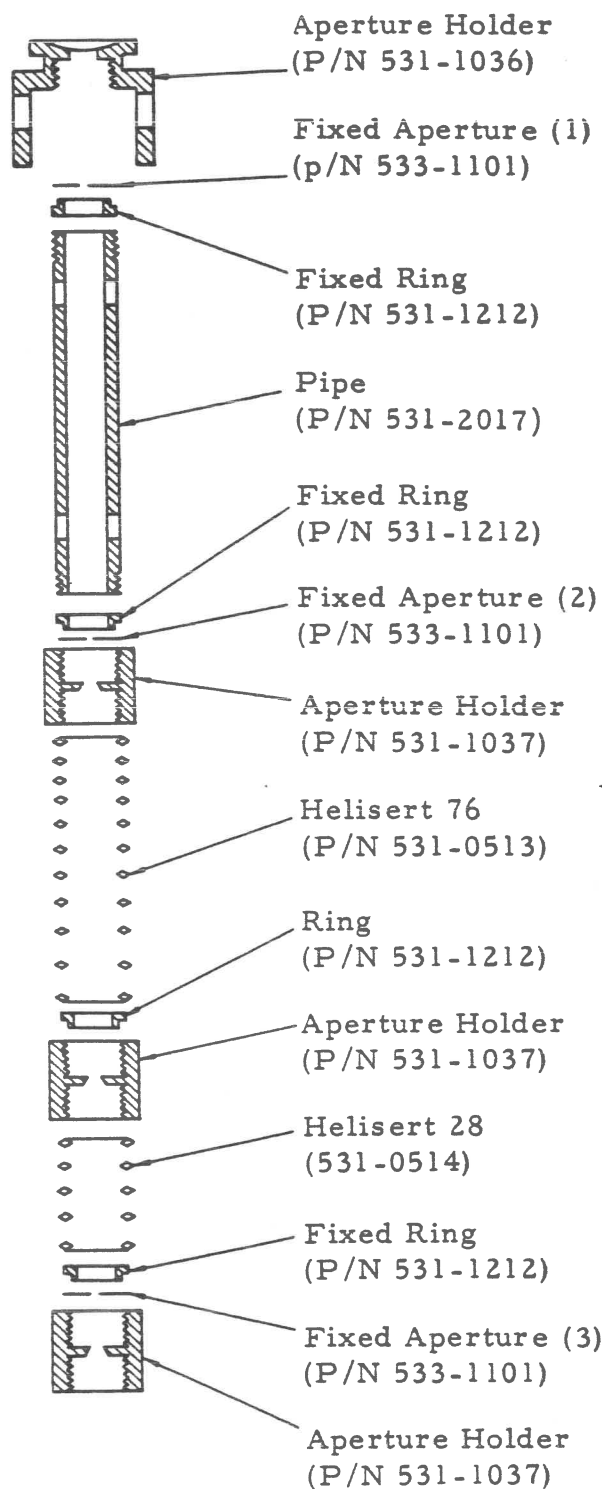

Fig. 3-2 Cleaning of **COND** Fixed Aperture Plates
- (1) Depress the HV (kV) **OFF** switch.
- (2) Depress the **AIR** pushbutton switch on the evacuating system operation panel.
- (3) When the column has reached atmospheric pressure (about 30 seconds), open the electron gun assembly. Wear clean gloves for the following steps.
- (4) Place an aluminum foil of 20 x 20 cm on the work table. All parts should be placed on it after removal.
- (5) Remove the anode by turning it counterclockwise.
- (6) Pull out the aperture ass'y straight upward by using the condenser lens aperture ass'y pick-up tweezers. See Fig. 3-2.
- (7) Disassemble the aperture according to Fig. 3-2.
- (8) Clean all parts other than the **COND** fixed aperture with absorbent cotton wound around a bamboo stick and soaked in acetone. It is recommended to use an ultrasonic cleaner, if available.
- (9) Bake the aperture plates in a vacuum evaporator, then reassemble all parts cleaned in the above to the original state.
- (10) Insert the aperture ass'y into the column by using the condenser lens aperture ass'y pick-up tweezers.
- (11) Mount the anode by turning it clockwise into its seat.
- (12) Close the electron gun assembly after pulling out the stopper knob at the flip-top hinge of the electron gun assembly.
- (13) Depress the **EVAC** pushbutton switch on the evacuating system operation panel.
- (14) Evacuation is completed when the **VACUUM** meter registers about 10 μ A.